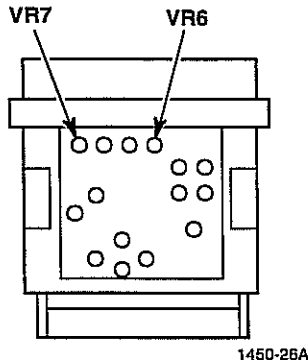

Figure 3-21.
- b. Adjust VR6 (Figure 3-21) for $1.50 \text{ VDC} \pm 0.05 \text{ VDC}$.
- b. Adjust VR7 (Figure 3-21) for $1.50 \text{ VDC} \pm 0.05 \text{ VDC}$.